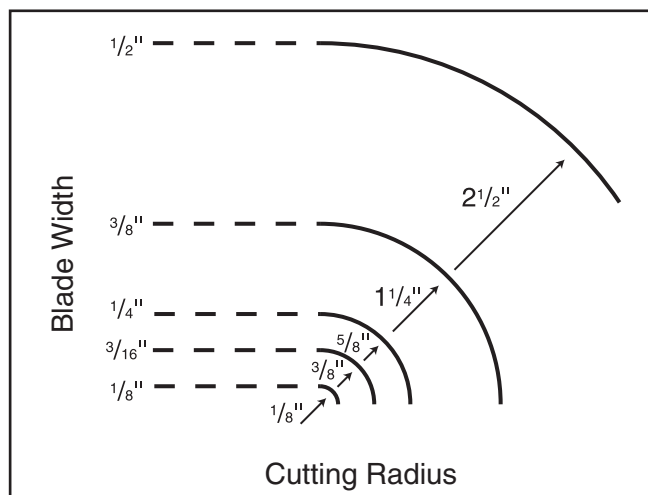

Figure 43. Blade width radii.
- **Curve Cutting:** Use the chart in **Figure 43** to determine the correct blade for curve cutting. Determine the smallest radius curve that will be cut on your workpiece and use the corresponding blade width.